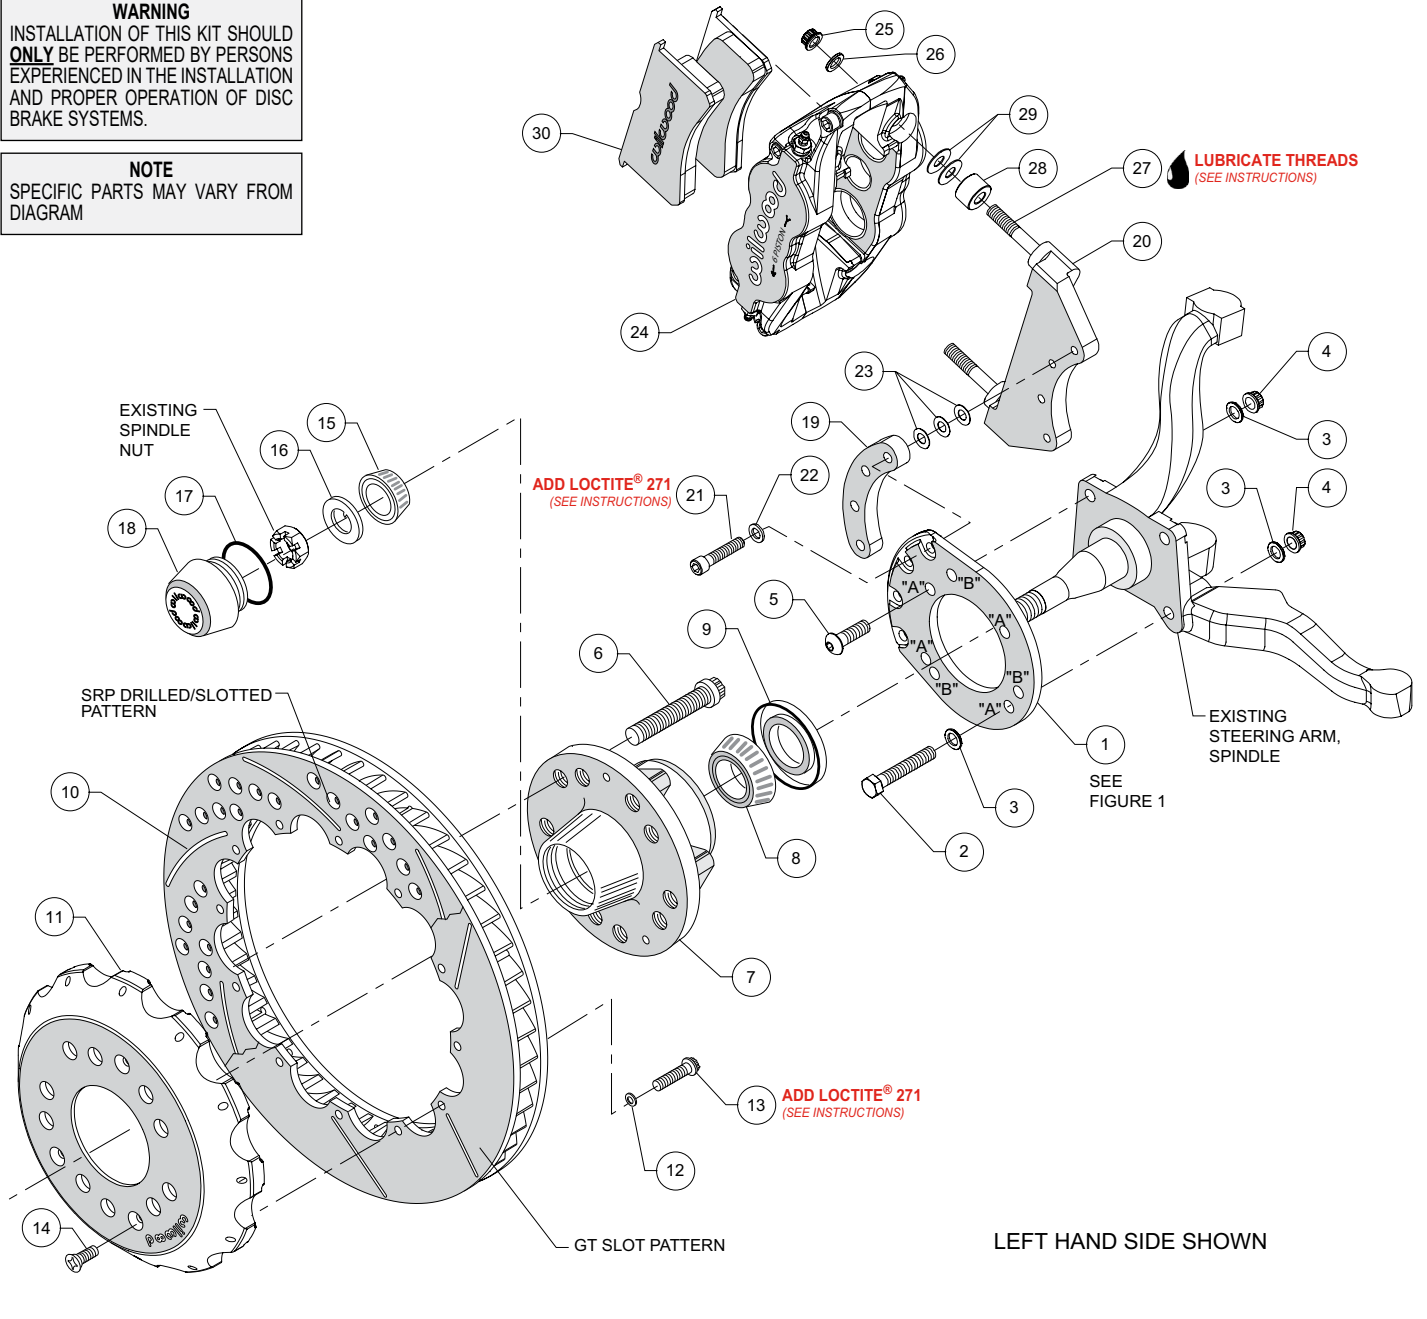

Figure 2. Typical Installation Configuration
NOTE: Numbers in parenthesis refer to the parts list and Figure 2 on the preceding pages.
•Align bracket, using the four "A" holes, to the face of the spindle and attach using bolts (2 and 5), washers (3), and lock nuts (4), as shown in Figure 2 and Photo 1. Temporarily tighten the mounting bolts. **NOTE:** The bracket must fit squarely against the mounting points on the spindle. Inspect for interference from casting irregularities, machining ridges, burrs, etc. Torque lock nuts (4) to 25 ft-lb.
•Install wheel studs (6) into the hub (7), Photo 2. Torque to 77 ft-lb. **NOTE:** There are two five lug patterns in the hub (5 x 4.50 and 5 x 4.75). Ensure the correct hub stud pattern is being used to fit the wheel application.
•Pack the large inner bearing cone (8) with high temperature disc brake bearing grease (available from your local auto parts store) and install into the backside of the hub (7), Photo 3.
•Install the grease seal (9) by pressing into the backside of the hub (7), flush with the end of the hub, Photo 3.
•Pack the small outer bearing cone (15) with high temperature disc brake bearing grease and install into hub (7). Slide the hub assembly onto the spindle. Secure using spindle washer (16) and OEM spindle nut, Photo 4. Adjust bearings per OEM specifications. Install saved OEM nut lock (if any) and a new cotter pin (not included).
•Screw dust cap (18) into hub (7), Photo 5. Friction created by the o-ring (17) on the dust cap keeps it from unscrewing. **NOTE:** The O.D. of the existing OEM spindle washer may be larger than the I.D. of the dust cap not allowing it to seat against the hub face. Therefore, use the spindle washer (16) supplied with the kit instead of the OEM washer.
•Orient the rotor (10) and the hat (11) as shown in Figure 2 and Photo 6. Attach rotor to hat using bolts (13) and washers (12). Apply red Loctite® 271 to the bolt threads and torque to 155 in-lb using a
- Slide the hat/rotor assembly (10/11) onto the hub (7) taking care to align the small countersunk holes in the hat with the small threaded holes in the hub (7). **NOTE:** *The hat must fit flush against the hub face or excessive rotor run out may result.* Install three flat head screws (14) through the small holes in the hat, Photo 5, and torque to 85 in-lb.
- Attach the caliper mounting bracket (20) to the spindle bracket (1) using bolts (21), washers (22), and spacer (19) as shown in Figure 2 and Photo 7. Initially place three .015" thick shims (23) on each bolt between the spacer and the caliper bracket. Temporarily tighten the mounting bolts. Later, after the caliper alignment has been checked, the mount bolts will be secured using red *Loctite*[®] 271.
- NOTE:** *This kit contains distinct right and left hand calipers that must be mounted in a specific direction, as described below.* Lubricate the caliper mounting studs (27) with lightweight oil. Initially place two .035" thick shims (29) and spacer (28) on each stud between the caliper and the bracket, as shown in Figure 2 and Photo 8. Mount the caliper (24) onto the bracket (20) using lock nuts (25) and washers (26), Figure 2. Ensure that the caliper is mounted so the largest pistons are at the rotor exit end of the caliper, in relation to the direction of rotor rotation. Temporarily tighten the lock nuts and view the rotor through the top opening of the caliper. The rotor should be centered in the caliper, Photo 9. If not, adjust by adding or subtracting shims (23) between the caliper bracket (20) and the spacer (19). Always use the same amount of shims on each of the four mounting bolts. Once the caliper alignment is correct, remove the bracket mounting bolts one at a time, apply red *Loctite*[®] 271 to the threads, and torque to 25 ft-lb.